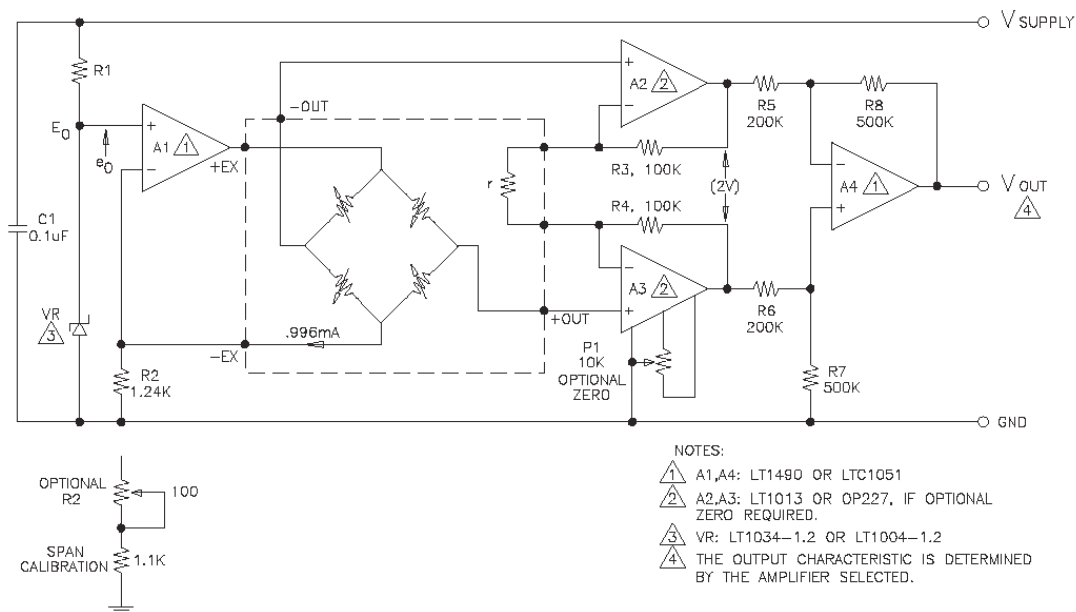

Figure 1 - Basic Signal Conditioning Circuit
The signal conditioning circuit shown in Figure 1 provides a precision constant current source for sensor excitation and an instrumentation amplifier with the gain programmed by sensor feedback resistor r .
If additional calibration and normalization is desired, resistor R_2 can be replaced with a series combination of a potentiometer and a resistor (Figure 1). The potentiometer can be adjusted to set the bridge excitation current (I) to achieve the exact span voltage (S) with full scale pressure applied to the sensor.
The output span S_o at the differential output of amplifiers A3- A2 (see Figure 1) for any other feedback resistor R in K is given by: